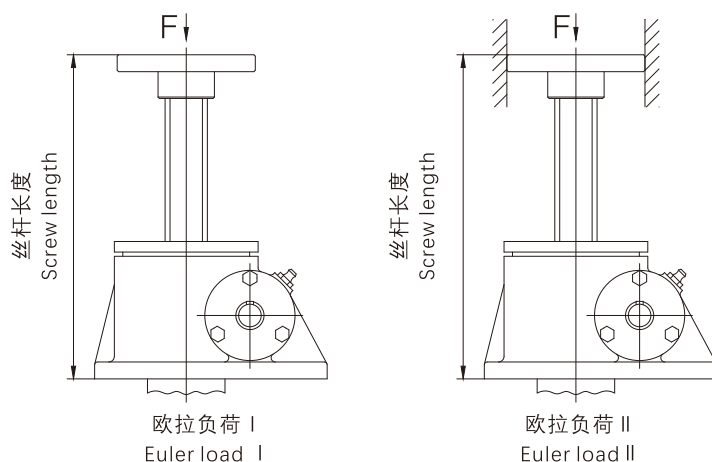
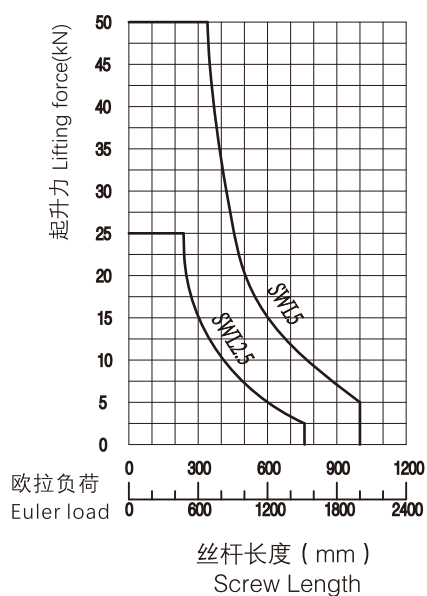
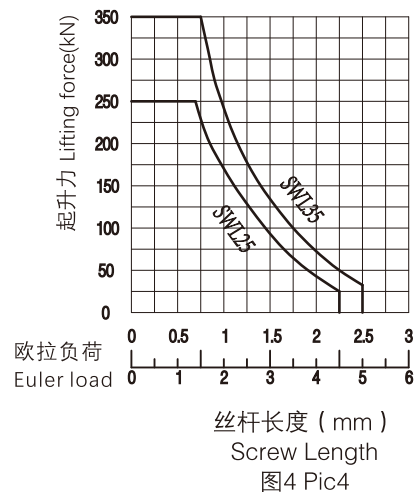

图1 Pic 1
图2 Pic2
图4 Pic4
根据丝杆行程和提升负荷查图1-图4，找出所需升降机的型号，再查提升力和提升速度表，校核提升速度是否满足要求。
根据 $F=20\text{kN}$ ，丝杆行程 $=400\text{mm}$ ，查图2，选择SWL5升降机 再查提升力和提升速度表核对SWL升降机在 25kN 负荷下只允许 0.526m/min 的速度，只有重选大型号的升降机，再查提升力和提升速度表得知SWL10在 20kN 负荷下允许提升速度为 1.44m/min 而满足要求。
- 1、当压力负荷减小时，提升高度可随之增大（两者具体关系详见图2-图4）；
According to the screw stroke and lifting load look up Figure 1–Figure 4, find the model of the lift you required, look up the Lifting power and Lift table again, Check the lifting speed if meet the requirements. For example: Known lifting load is $F=20\text{kN}$, Screw stroke $=400\text{mm}$, Lifting speed $V=0.65\text{m/min}$ Try to find the required lift
According to $F=20\text{kN}$, Screw stroke $=400\text{mm}$ look up Figure 2, Select SWL 5 lift, look up the Lifting power and Lift table again to check, SWL lifts only allow 0.526m/min speed at 25kN load, can only choose a size large lift. Re check the lifting force and improve the speed table that SWL10 allows 20kN to enhance the speed of 1.44m/min and meet the requirements under the load.
1. When the pressure load is reduced, Lifting height can be increased (The specific relationship between the two is shown in figure 2–Figure 4)